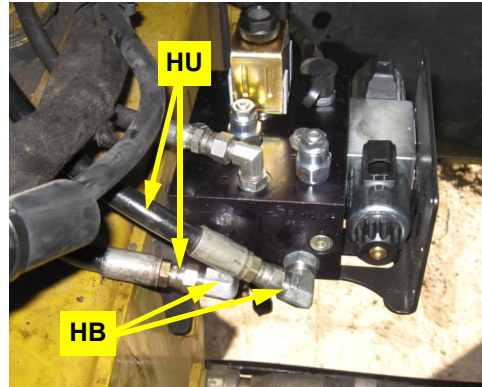

Figure 8b: Steering hoses connected at steering block
- b. Connect the steering hoses **HU** to adapter fittings **HB** in the **A** and **B** ports of the hydraulic steering block (Figure 8b).